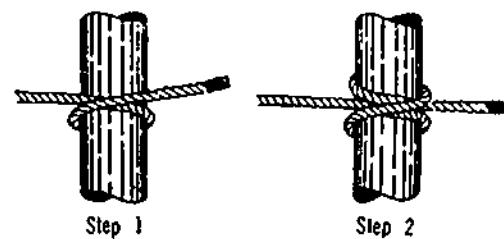

Figure 2-15. The Clove Hitch (First Method)
h) The clove hitch attaches a rope for a right-angle pull. It holds position with a tight or slack line. The clove hitch may be made in the line and passed over one end of the load as shown in Figure 2-15, or it may be made in position on the load (Figure 2-16).